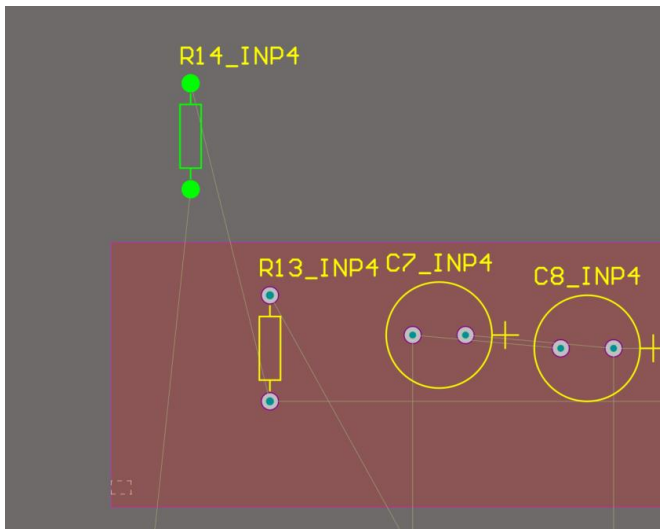

Figure 4. Moving a component outside of its room
6. Drag one of the components out of the room and notice that it turns bright green indicating that there is a violation because it is no longer within the boundary of the room, as shown in Figure 4.